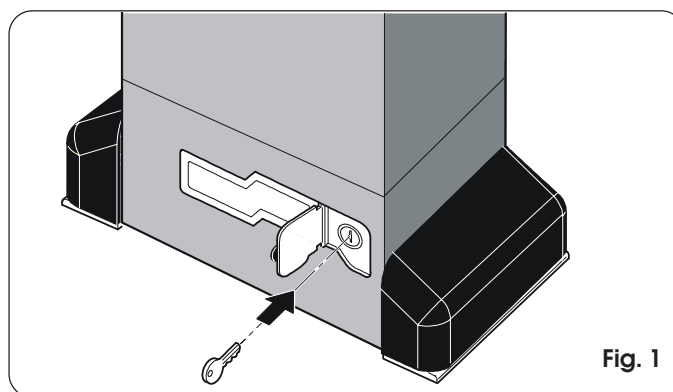

Fig. 1
- 2) Open the protective door and fit the supplied key in the lock as shown in Fig. 1.